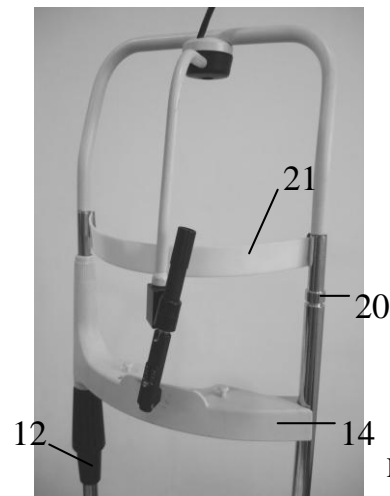

Fig.16
(12) below the chin-rest until the patient's canthus align with the horizontal mark (20) (Fig.16).